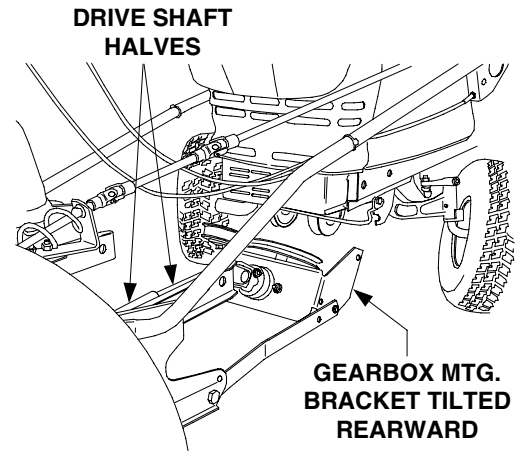

Figure 16
3. **Units with 15" front tires ONLY.** Using care to avoid separating the rear half of the drive shaft from the front half, tilt the gearbox mounting bracket rearward. See Figure 16.